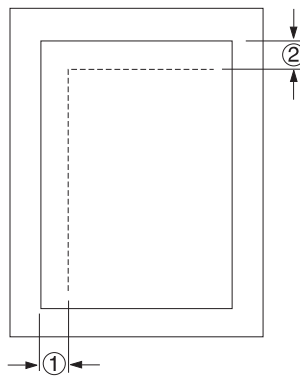

Figure 19. **LINEONE** Coordinates
The previous section showed you how to define the size of a logical page. The next two examples show you how to position the first line of data inside the logical page, using the **LINEONE** subcommand. This subcommand position is relative to the logical page origin, as shown in Figure 19. The two coordinates, (1) and (2), of the **LINEONE** parameter define the starting point for the first line of text.